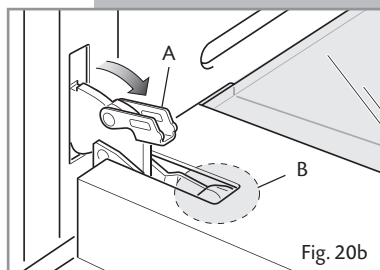
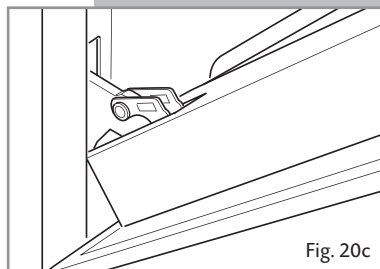

Fig. 20b
Fig. 20c
- Open the lever **A** completely on the left and right hinges (fig. 20b).
- Gently close the door (fig. 20c) until left and right hinge levers **A** are hooked to part **B** of the door (fig. 20b).